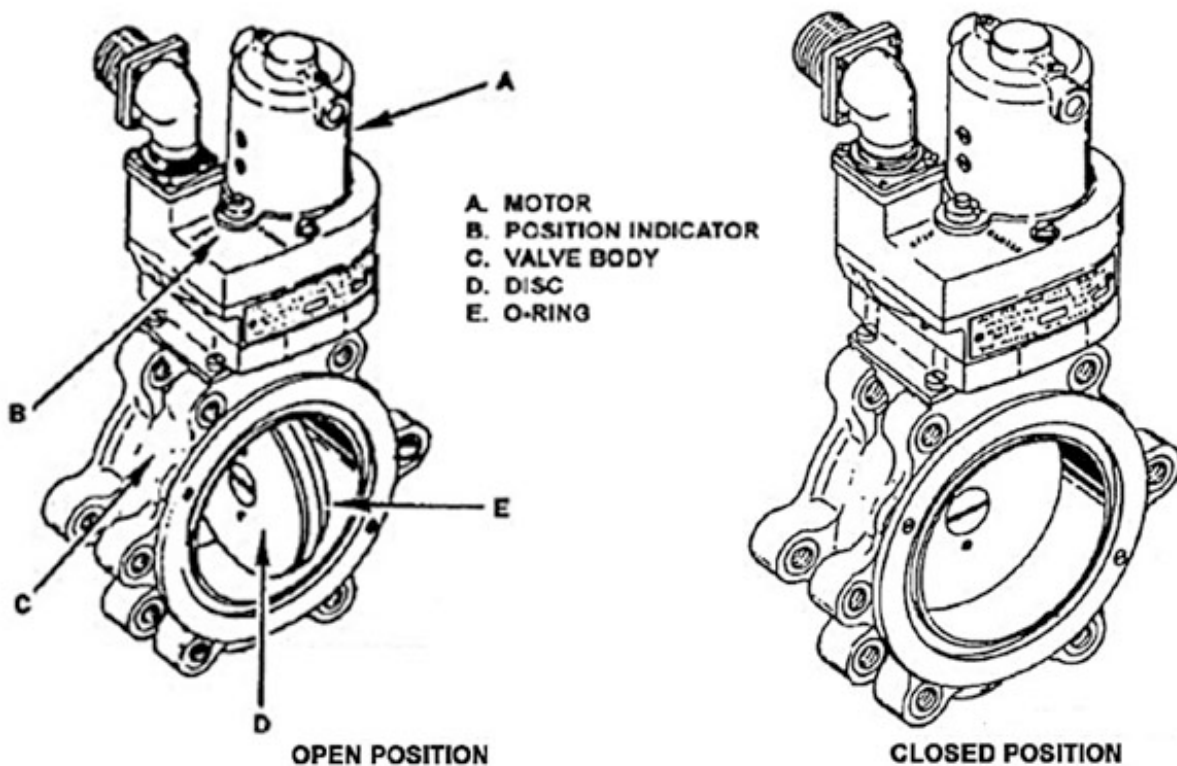

Figure 1-8. Disc (butterfly) valve.
A typical example of a disc valve, also referred to by the name “butterfly,” is shown in figure 1-8. As you can see in the illustration, the main seal between the disc (D) and the valve body (C) is an O-ring-type seal (E) located in a groove in the disc. The thermal relief valves are installed in the disc. A position indicator (B) is incorporated to determine by a visual inspection the position of the valve. Provisions are usually made to permit removal and replacement of the motor (A) without draining the lines or removing the valve body.